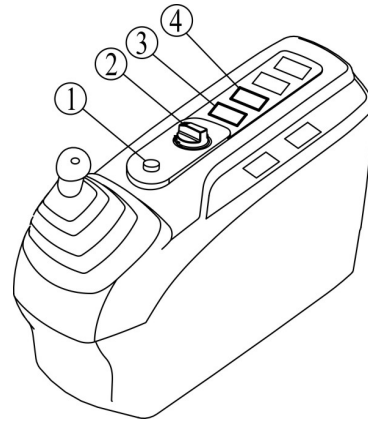

Figure 1
- 1) Insert the key into the key switch to start the machine (as shown in figure 1 on the right).
- 2) Press the switch button of the fittings on the right handrail box to change the quick change piping pair fittings (as shown in figure 1 on the right).